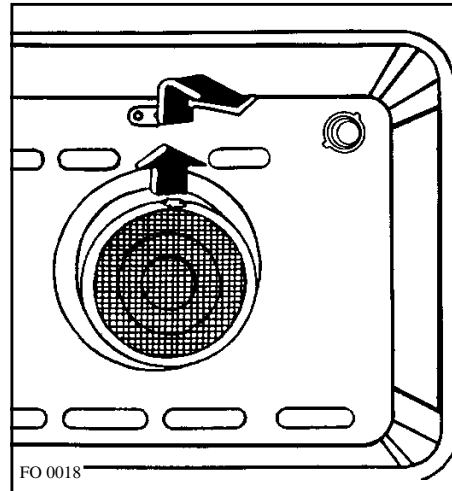

Fig. 13
- Push the protruding tongue on the filter, upward (See Fig. 13)